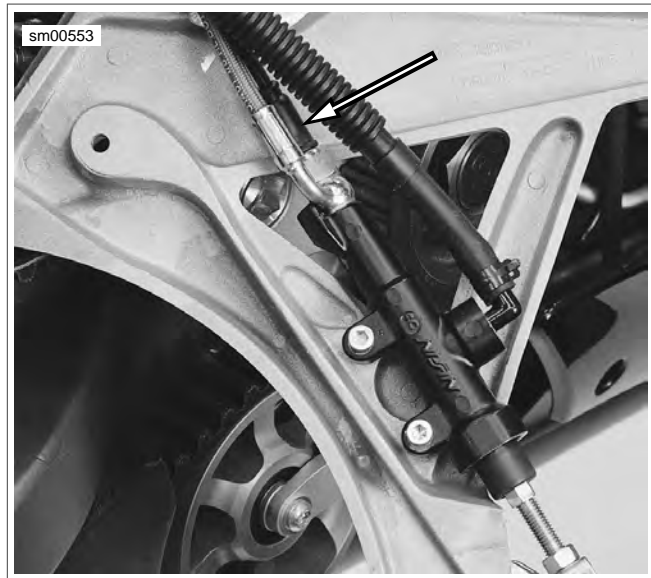

Figure 2-80. Rear Brake Light Switch/Banjo Bolt: Ulysses
- Remove banjo bolt (3) from rear caliper. Discard copper washers.
- See Figure 2-80. Remove brake line switch/banjo bolt from rear master cylinder. Discard copper washers.
2. See Figure 2-80. Install brake light switch/banjo bolt with **new** copper washers to the master cylinder. Tighten to 16-20 ft-lbs (22-27 Nm).